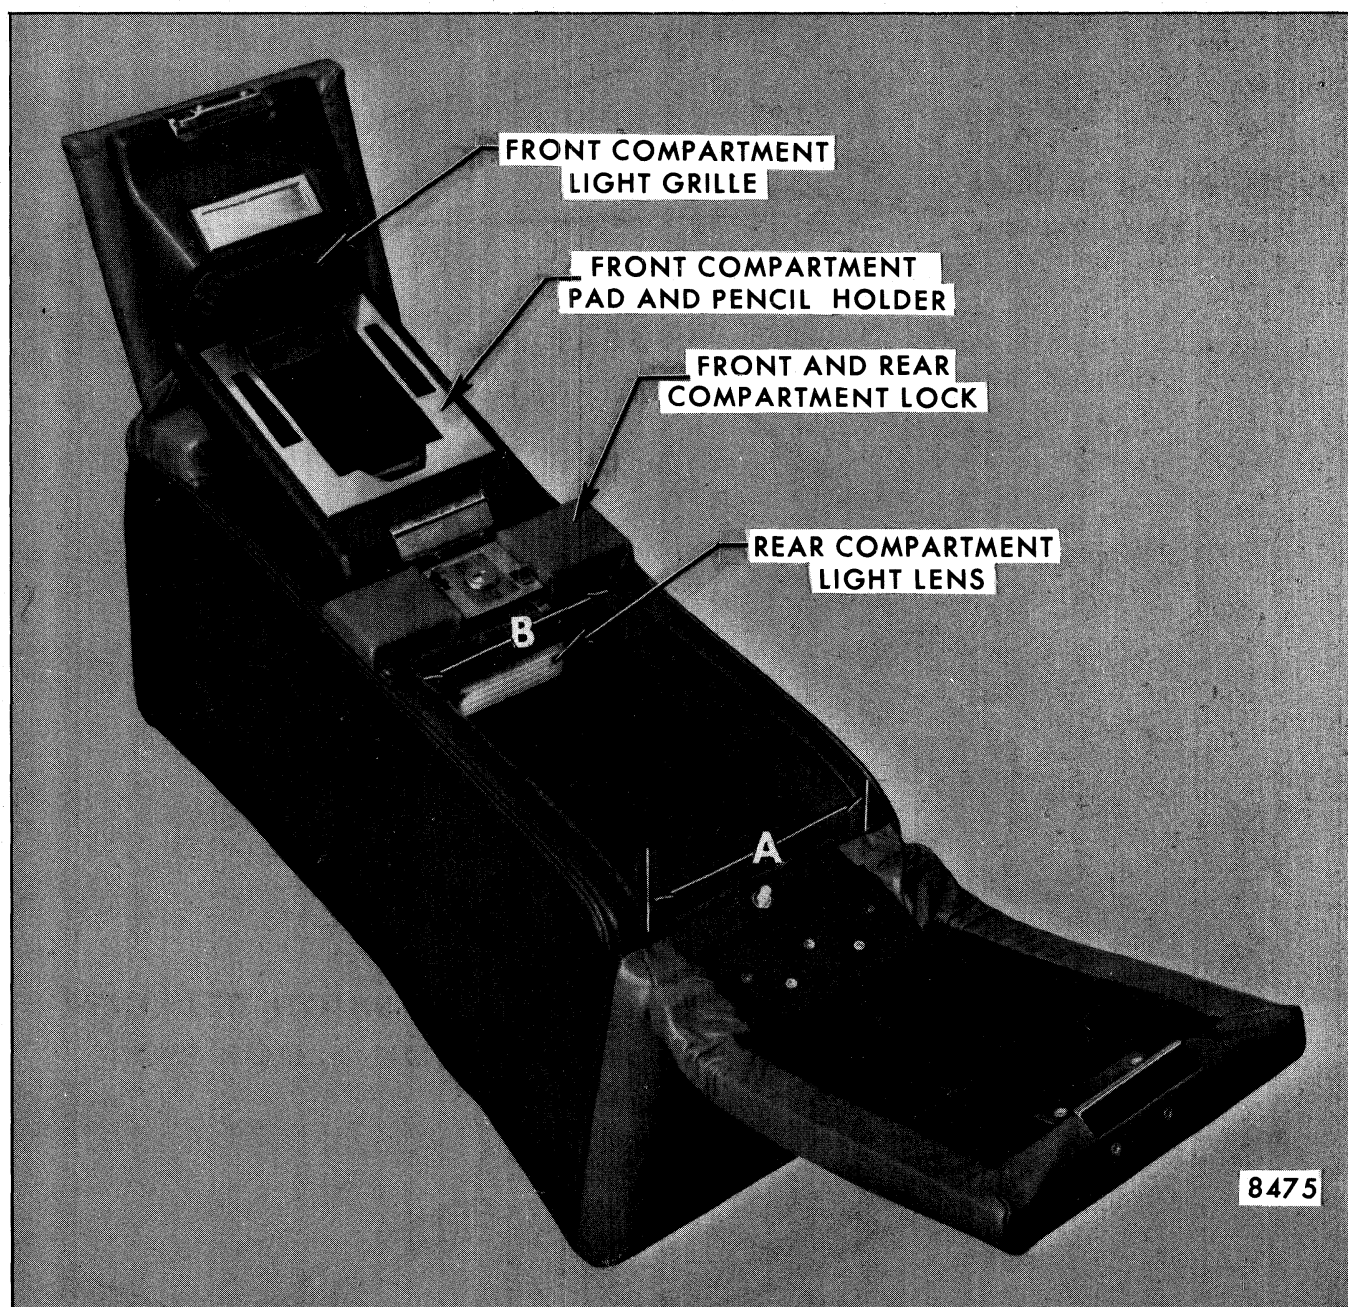

Fig. 9-66-Front Seat Console - Doors and Double Lock - Cadillac Talisman
1. To remove console rear compartment door and/or hinge, open door and remove hinge screws from underside of console door (see Fig. 9-66). If removing hinge, carefully detach upper portion of compartment inside rear trim at area "A", Figure 9-66, sufficiently to remove hinge screws.
compartment inside front trim at area "B", Figure 9-66, sufficiently to remove light lens and lock bolt screw. With light lens removed, remove lock bolt attaching screw, then remove lock bolt, spring washer and lock cylinder. To remove lock assembly remove two screws securing lock and carefully remove lock from console - **USE CARE** not to lose either of the sliding latch springs as bottom of lock is open and sliding latches and springs will fall out,